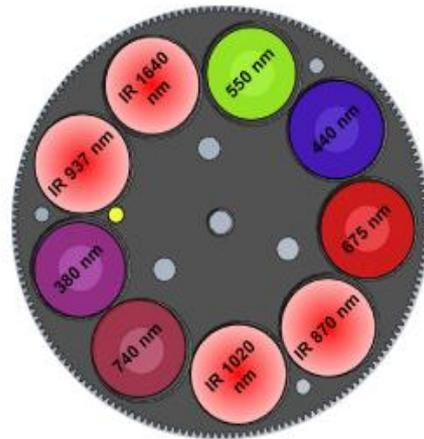

Figure 2 : BRDF Type (CE318-TU9)
- **Polarized / CE318-TP9:** A filter wheel containing 3 sets of 3 polarizers operating in infrared (POL1), Ultraviolet (POL2), and visible (POL3) and which are orientated with a 120° angle is added on top of the wheel containing the Standard filters. Additional information about the aerosols nature and shapes can then be retrieved (Fig.2).